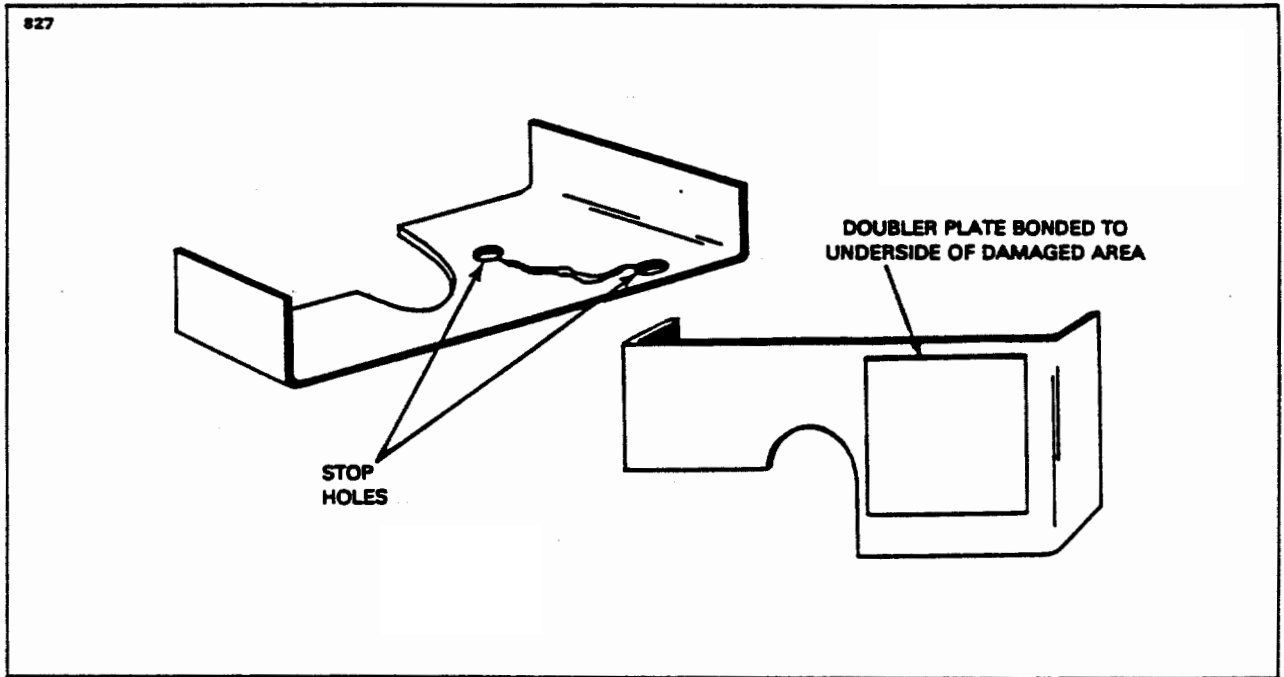

Figure 4-12. Repairing of Cracks
- d. Cracks: (Refer to Figure 4-12.)